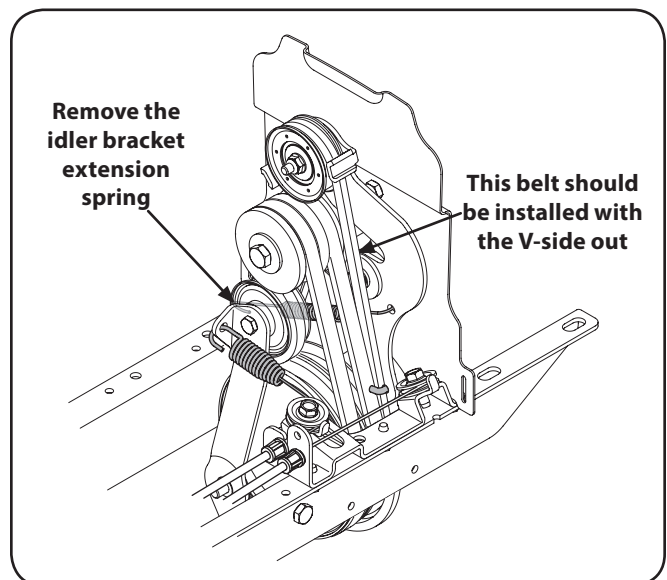

Figure 7-3
4. Remove the reverse idler bracket extension spring, as pointed out in Figure 7-3. It is recommended to use a pair of needle-nosed pliers, and grab the spring by the end that hooks over the frame. Simply grab it and pull it away from the frame, then up wards and carefully relieve the tension of the spring.